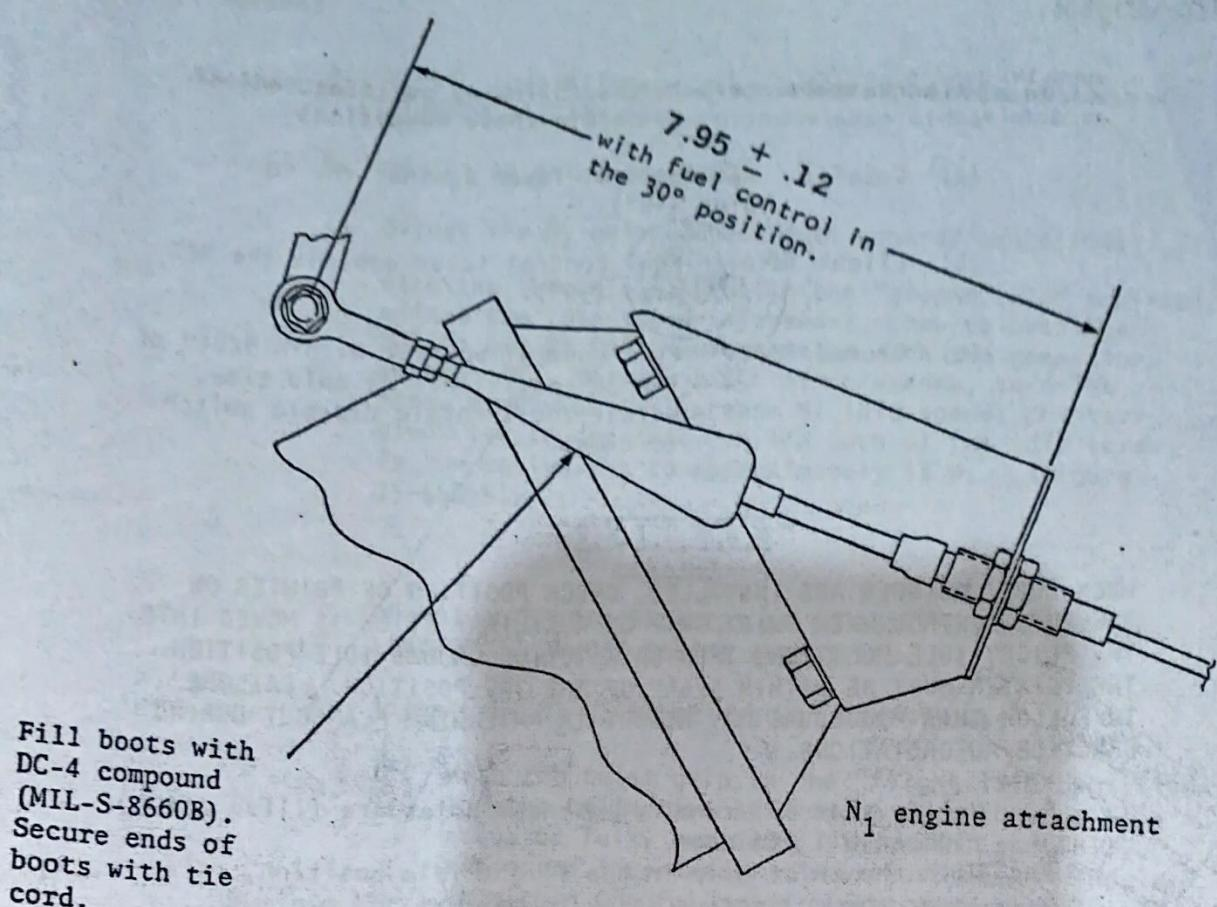

Figure 75-560-4. N₁ Cable Attach Location.
3. Without moving the pointer, position the lever so the rod end uniball hole is $7.95" \pm 12"$ from the upper face of the bracket located at the starter/generator attach pad (Figure 75-560-4).
3. Without moving the pointer, position the lever so the rod end uniball hole is 7.95" \pm .12" from the upper face of the bracket located at the starter/generator attach pad (Figure 75-560-4).